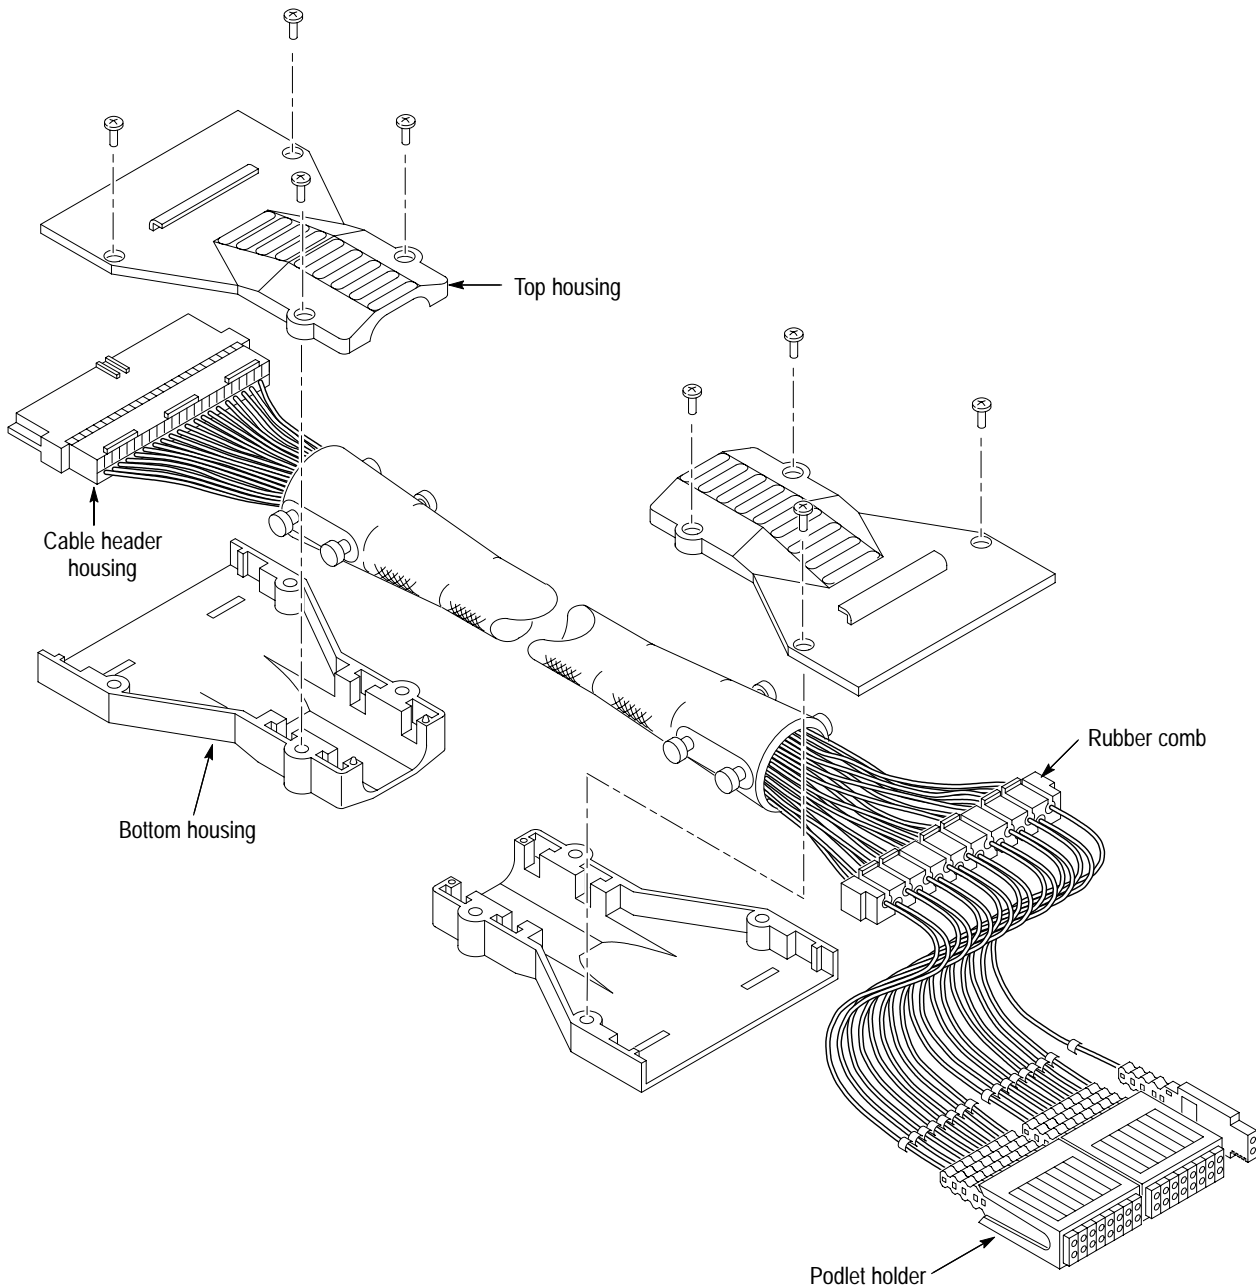

Figure 10: Disassembling the probe cable
3. Using the screwdriver with the #1 Phillips tip, remove the four screws on the probe housing on the module end of probe cable (see Figure 10).
21. Reinstall the top and bottom probe housings on the module end of the probe cable in the following manner (refer to Figure 10 on page 27 if necessary):